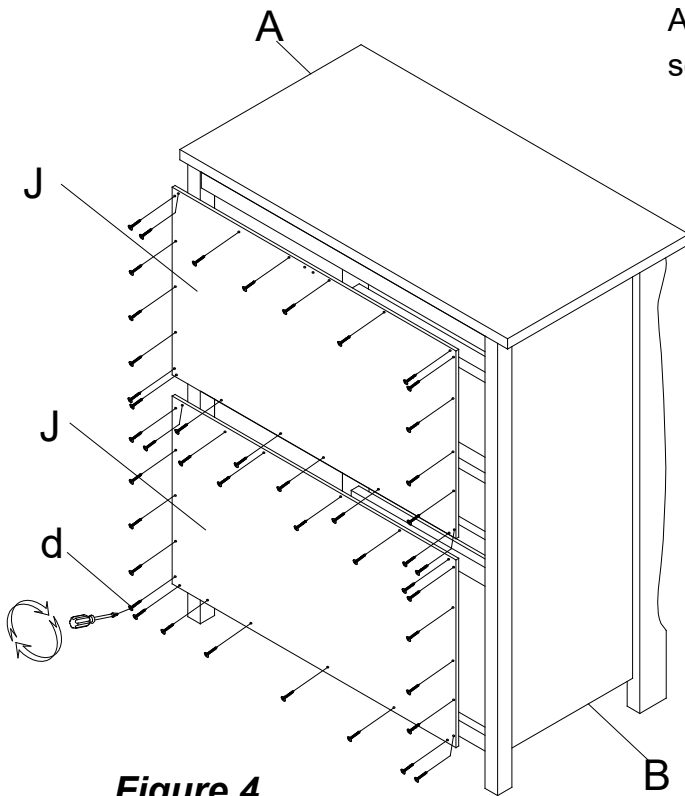

Figure 4
Attach the Back Panel(N) with 40pcs wood screw(d), As shown in **Figure 4**.